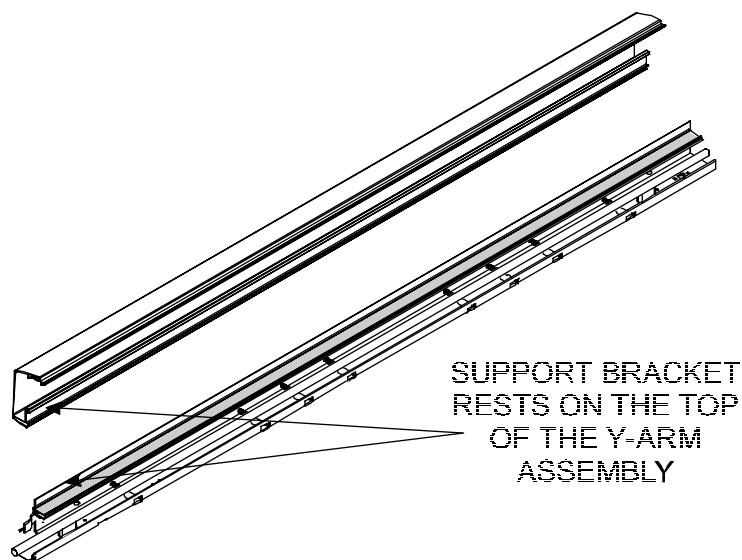

Figure 5-21. Stabilizer Bracket Installation/Removal.
5. Remove the Support Bracket by slightly tilting the top of the Support Bracket towards the front of the printer and lifting it straight up. See Figure 5-21.